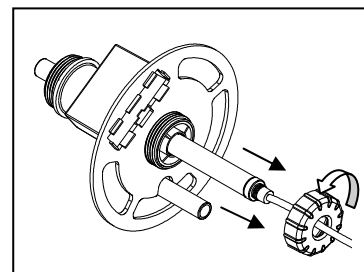

Fig. 13
9. Remove the locking nut by turning it counterclockwise then pulling it away from the light housing. Then remove UV bulb assembly by gently pulling on lamp holder. Be careful to pull assembly straight out so as not to damage the UV assembly. Fig. 13